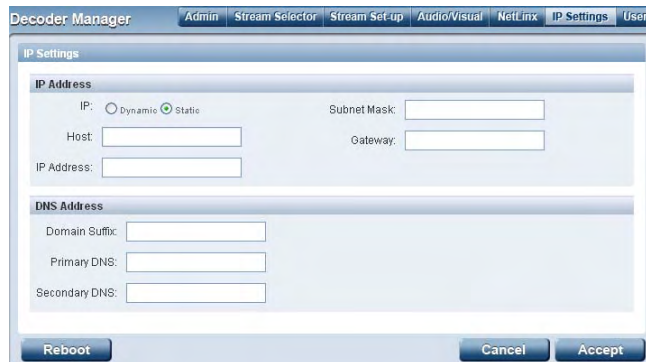

FIG. 4 Example of the unit's IP Settings page (DHCP)
1. Access the IP Settings page by clicking the **IP Settings** button from within the Decoder Manager (FIG. 4).